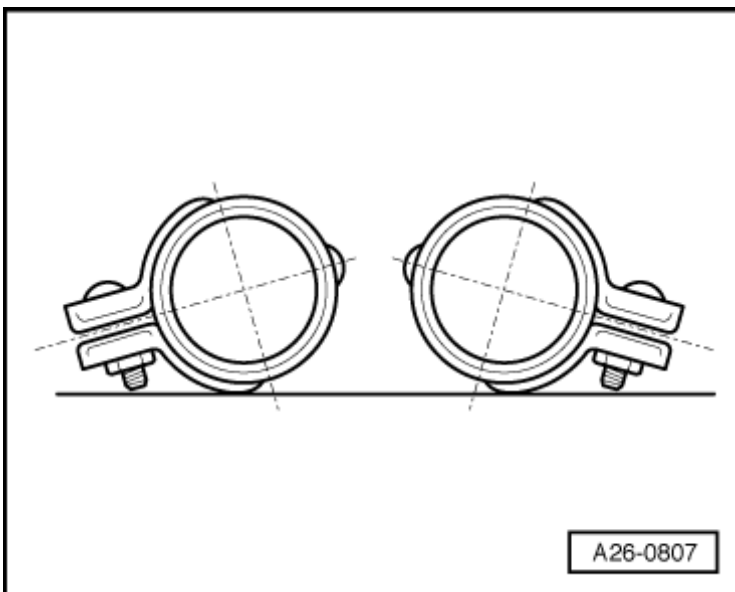

Fig. 7: Adjusting Front Double Clamps So Bolt Ends Do Not Project Over Lower Edges Of Double Clamps
- Installed position, refer to **Fig. 7**